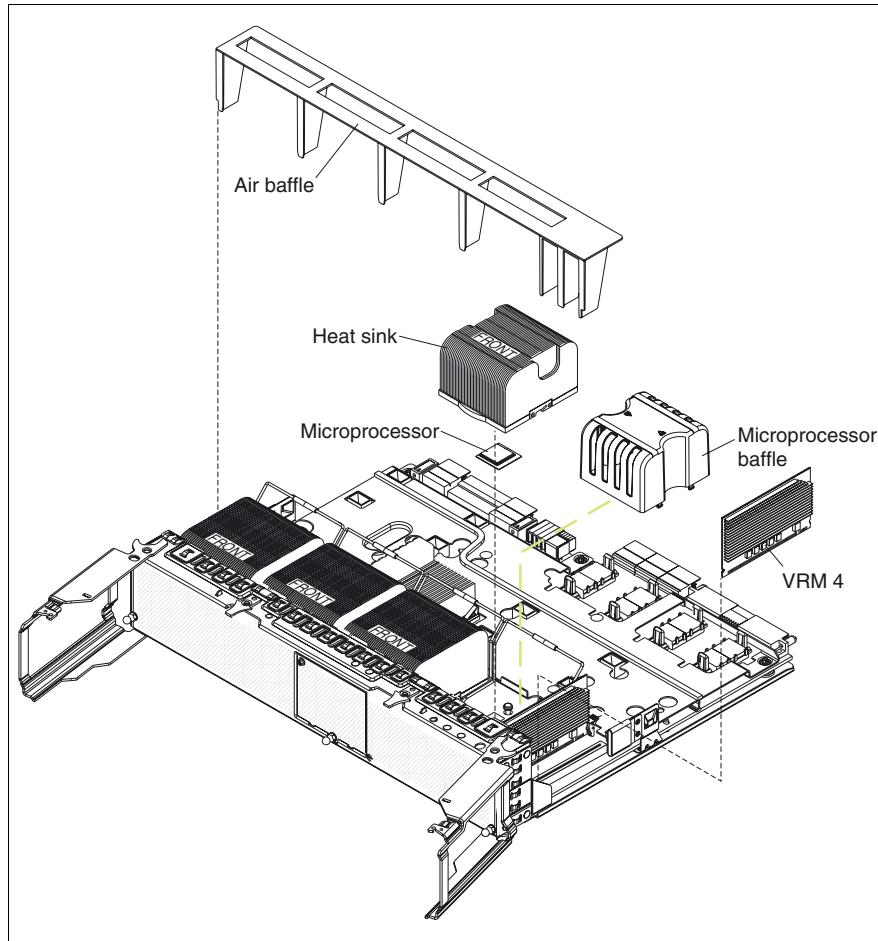

Figure 15: Removing the air baffle out of the microprocessor tray
- ▶ Lift the air baffle out of the microprocessor tray (see figure 15).